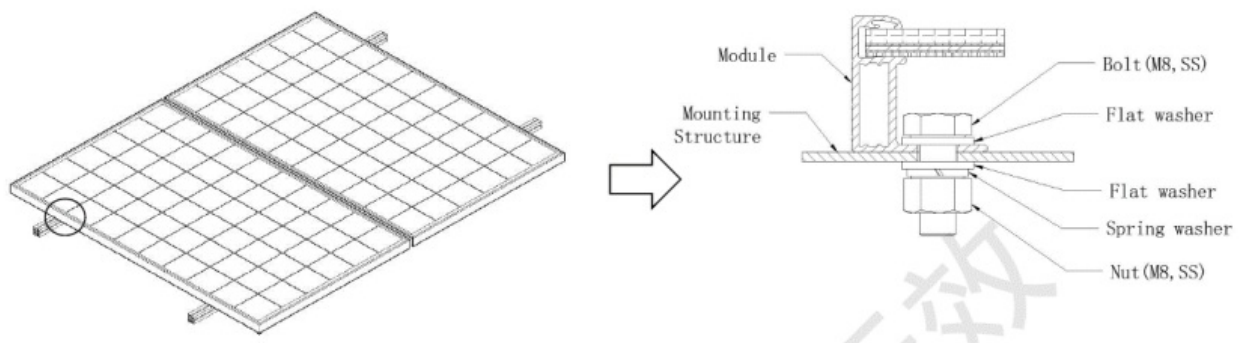

Figure 3 Mounting holes
- Mounting hole system: Use the corrosion-resistant bolt, for fixing with the installation support through the installation hole in the side frame of the module, as shown in Fig. 3.